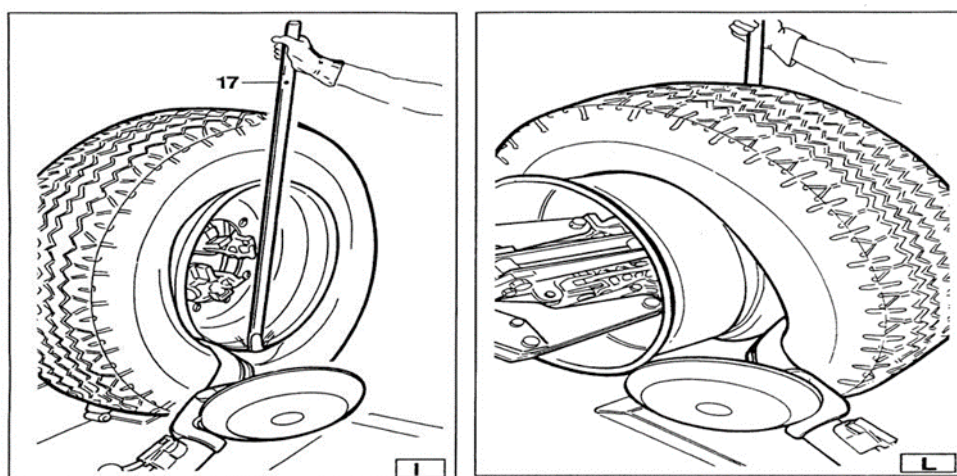

Fig 13
- 2) Rotate the wheel while moving the hook between the rim and the bead until it's anchored to the bead (Fig 13/I).
- 4) Insert lever (17, Fig 13/I) between the rim and the bead at the right side of the hook tool.
- 8) Turn the tool 180 degrees and insert it between the rim and the bead (Fig 13/L). Move it until the bead is by the edge of the rim (turning the wheel makes this easier).
- 11) Insert lever (17, Fig 13/I) between the rim and the bead at the right side of the hook tool.